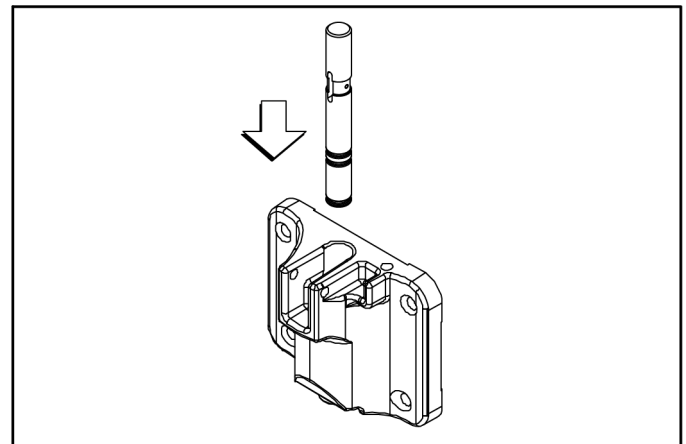

Figure 6-22
12. Insert the (white) draw valve from the top, with the draw handle slot facing forward. (See Figure 6-22.)